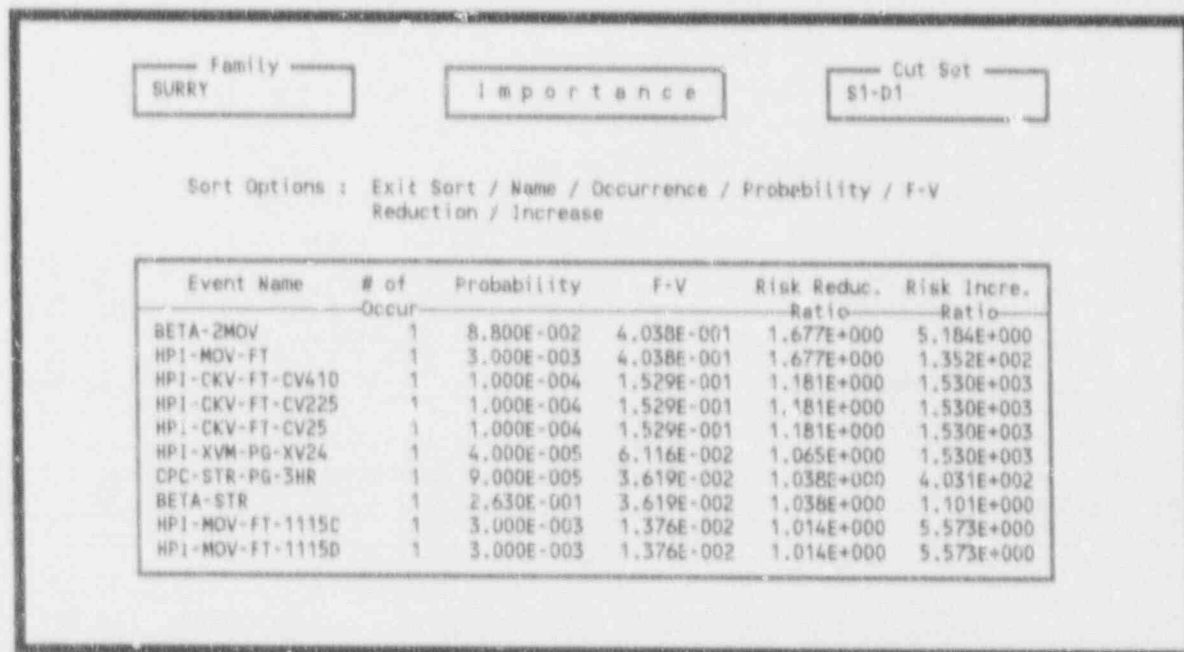

Figure 113. Importance sort order menu.
4.4.1.5.5 Sort—When you invoke this option, Figure 113 will be displayed. As shown, the data can be sorted by the following: Name, Occurrence, Probability, F-V, Reduction, and Increase.